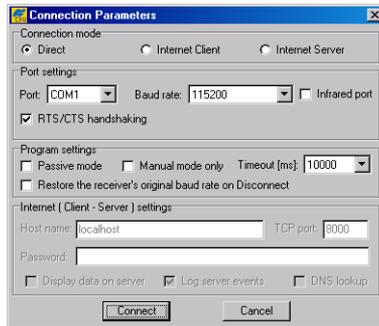

Figure 1-5. Connection Parameters
Once PC-CDU is launched, the *Connection Parameters* window will appear (Figure 1-5).
7. Press **Connect**. Figure 1-5 on page 1-9 shows an example of the **Connection Parameters** window for this connection type.